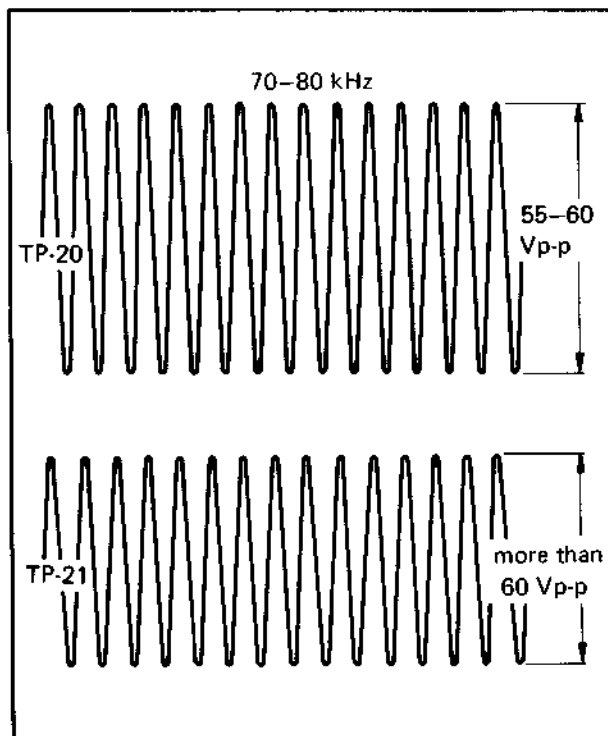

Fig. 6-43 Bias level
3. Adjust R144 (BIAS LEVEL) so that the level of TP-20 is 60 Vp-p and also, check the level of TP-21 (ERASE HEAD IN) is more than 60 Vp-p as shown in Fig. 6-43.